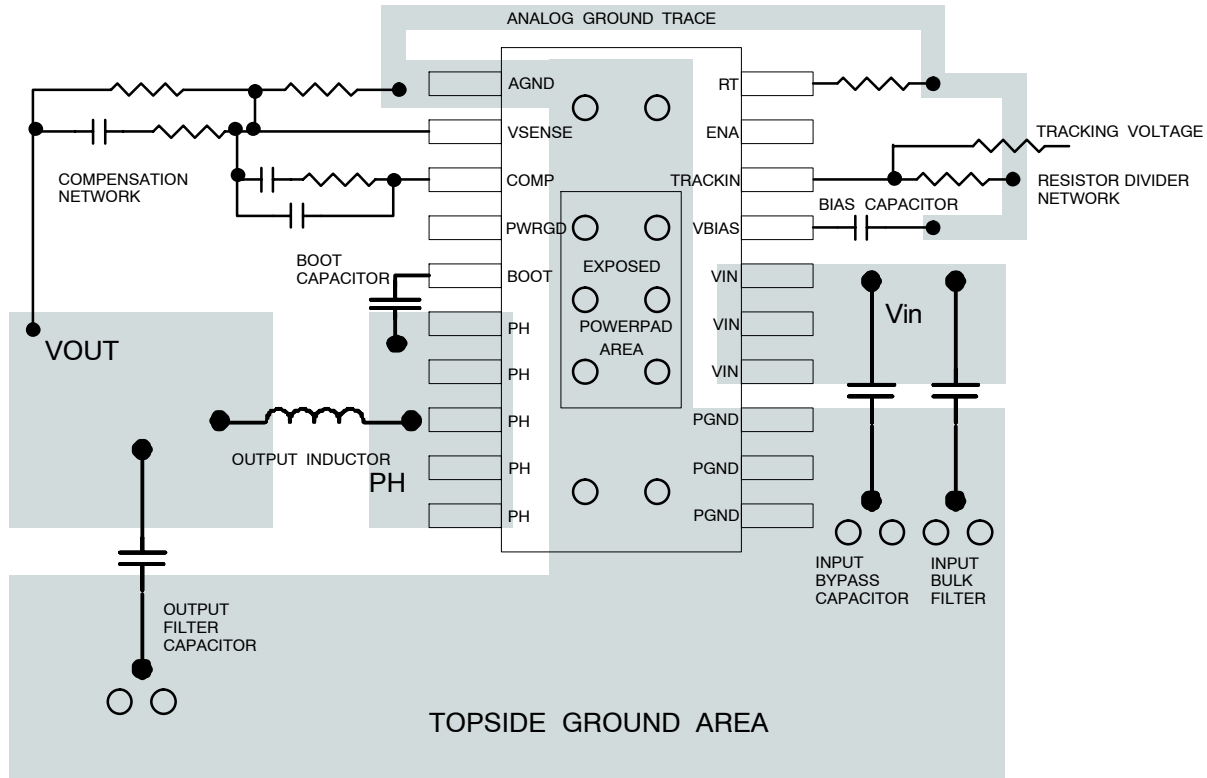

Figure 10. TPS54380 PCB Layout
(3) Specified by the circuit used in Figure 10
Figure 10 shows a generalized PCB layout guide for the TPS54380.